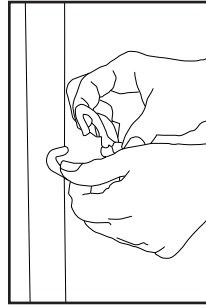

Fig. 2
1. Pull apart the rounded end of the cord retainer to open it up enough to fit around the vacuum handle (Fig. 2).